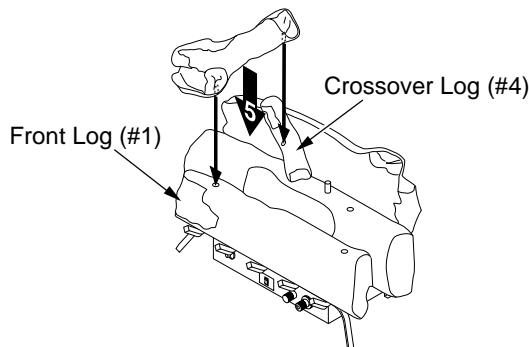

Figure 28 - Installing Crossover Log (#5) (CCL3930PR/NR Shown)
5. Locate pegs on the bottom of crossover log (#5). Slide these pegs into the holes located in crossover log (#4) and front log (#1). See Figure 28.